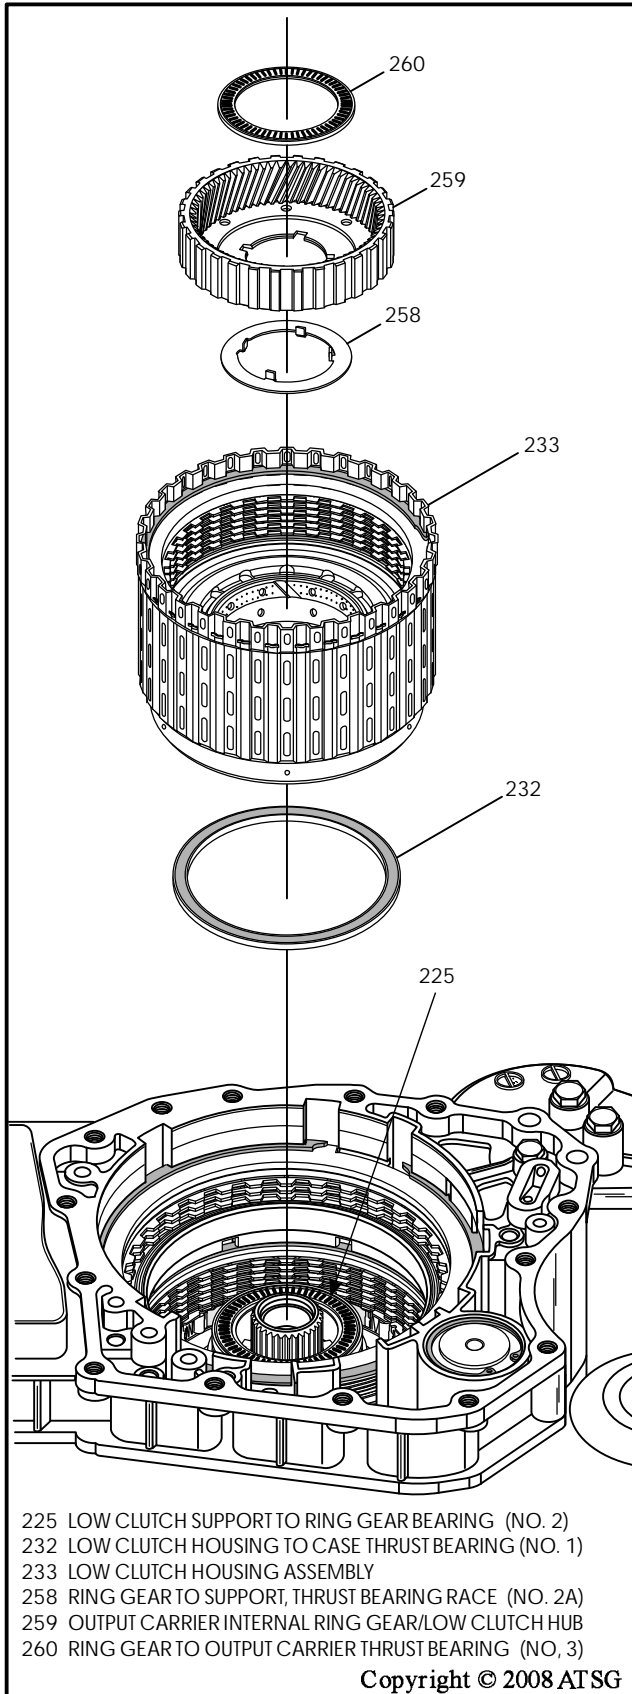

Figure 57
65. Remove output carrier internal ring gear/low clutch hub (259), as shown in Figure 57.
66. Remove the number 3 thrust bearing (260), as shown in Figure 57.
67. Remove number 2A thrust bearing race (258), as shown in Figure 57.
68. Remove the low clutch housing assembly (233) as shown in Figure 57.
70. Remove the low clutch housing to case thrust bearing (232), which is the number 1 bearing, as shown in Figure 57.